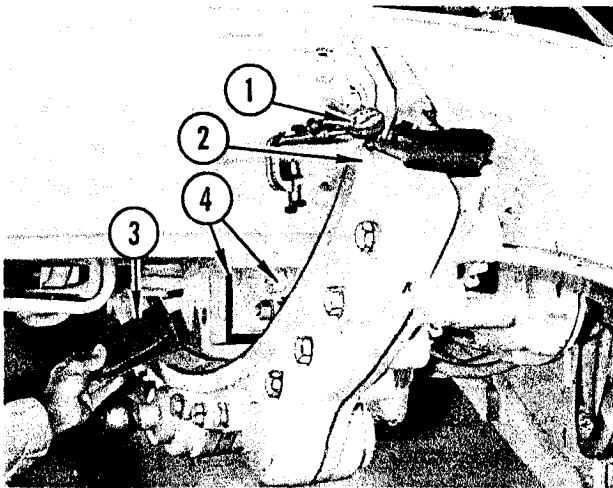

FIGURE 29. LATERAL SHIFT GEAR ADJUSTMENT
2. Refer to Figure 29. Attach a dial indicator (1) to support bracket in such a position that the contact point of dial indicator rests on end